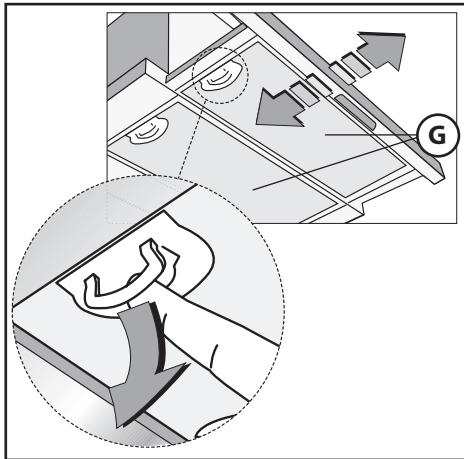
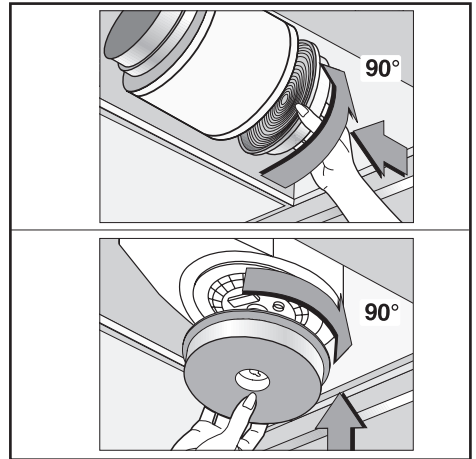

Fig.4
Fig.5
• If the hob is electric, gas, or induction, the minimum distance between the same and the lower part of the hood must be at least **65 cm**. If a connection tube composed of two parts is used, the upper part must be placed outside the lower part. Do not connect the cooker hood exhaust to the same conductor used to circulate hot air or for evacuating fumes from other appliances generated by other than an electrical source. Before proceeding with the assembly operations, remove the anti-grease filter(s) (Fig.4) so that the unit is easier to handle.
To transform the cooker hood from the extraction version to the re-circulating one ask your supplier for an activated carbon filter. The filter must be fitted to the extracting group cooker hood in the centre of the fan grille by twisting it by 90 degrees until it is gripped securely (Fig.5). For this operation remove the anti-grease filter(s) **G** (Fig.4). The clean air is returned into the room through a connecting tube passing inside the cupboard and connected to the ring **H** (Fig.3B).